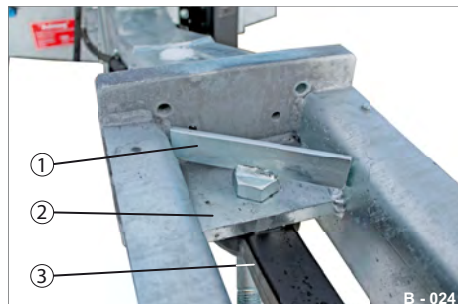
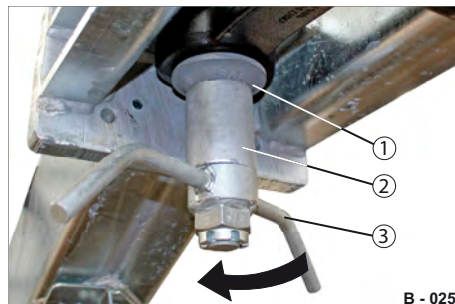

Fig. 21 Towing eye D50 locked at bottom
Fig. 22 Securing the towing eye D50 at bottom
► Insert the fastening bolt (Fig. 21/1) from above through the bracket (Fig. 21/2) and the towing eye (Fig. 21/3).
- Engage the shim rest (Fig. 22/1) and the spacer (Fig. 22/2) from below on the fastening bolt of the towing eye (Fig. 21/3).
- Screw the wing nut (Fig. 22/3) onto the fastening bolt.